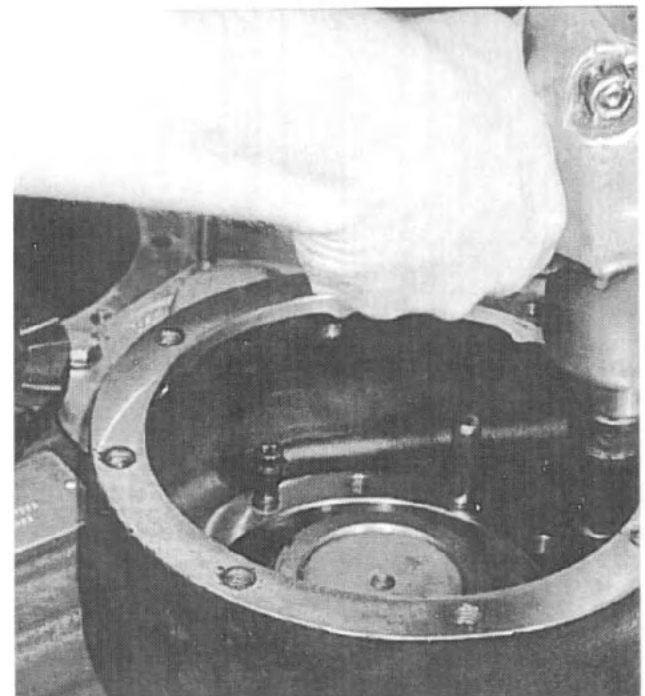

Fig. 74
16. Torque the declutch housing attachment bolts to specifications. *See Fig. 74.*